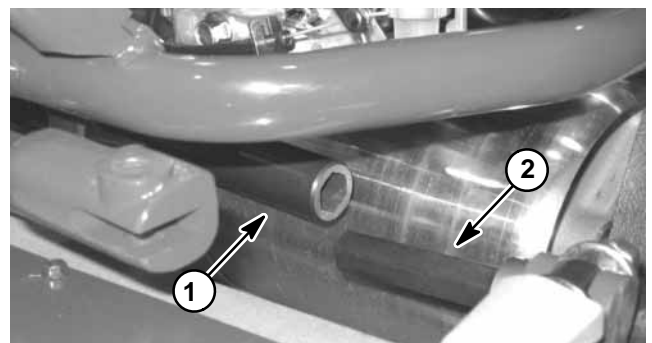

Figure 3
6. Pull cutting unit forward about 2 inches (51 mm) and then to the right to disengage the transmission coupler (Fig. 3).